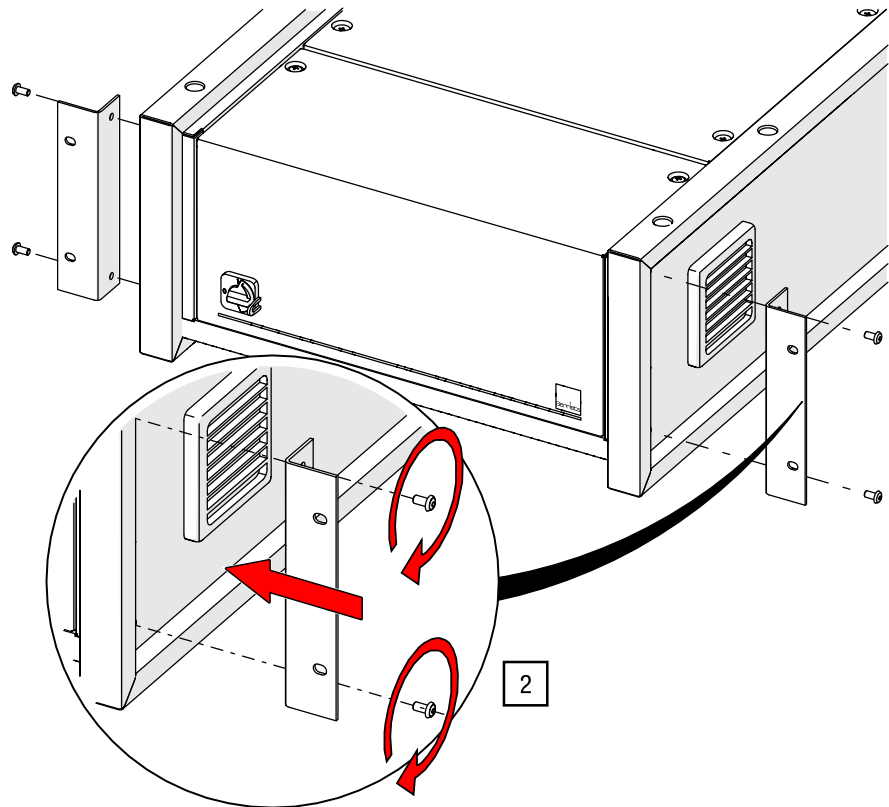

Fig. 94: Fasten rack mounting brackets (control unit model may vary)
2. Fasten the mounting brackets with the socket head cap screws to both sides of the G-FRAME control unit (see Fig. 94).